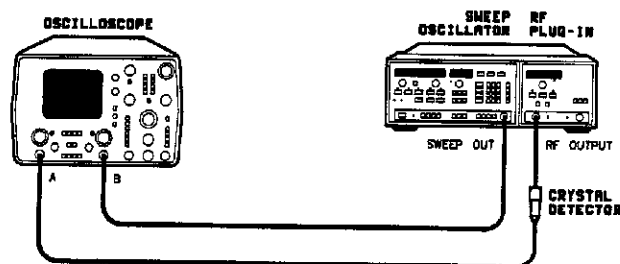

Figure 4-2. Swept Power Measurement Test Setup
1. Connect the equipment as shown in Figure 4-2. Press **[INSTR PRESET]** on both the sweep oscillator and the spectrum analyzer. Allow the equipment to warm up for one hour.